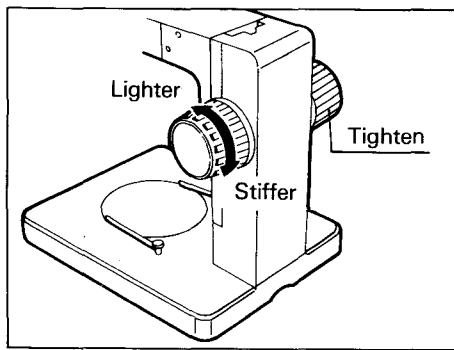

Fig. 2
- (1) Turn one focusing knob with the other focusing knob tightened, by holding both knobs, in order to increase or decrease the rotation tension, depending on the turning direction. (Fig. 2)
- (2) This adjustment is intended to prevent the microscope body from drifting. Set the knob tension at a level slightly stiffer than that to insure no unintentional movement and facilitate easy operation.